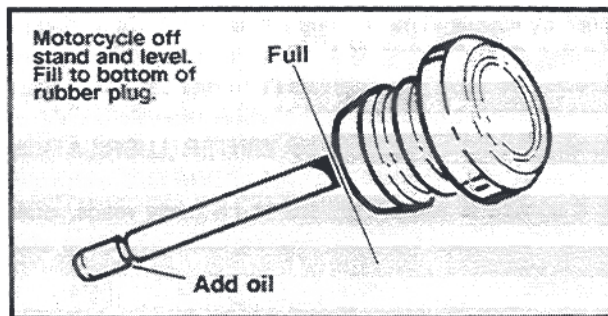
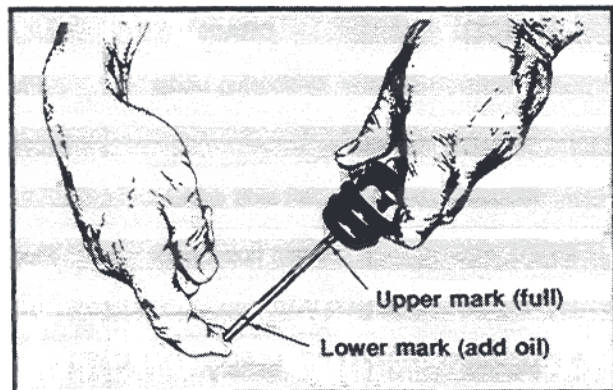

Figure 27. Engine Oil Level - Softtail Models
Figure 28. Oil Level Dipstick - All Other Models
See Figure 28. Wipe off dipstick and insert into tank with plug pushed completely into filler neck. Remove and note oil level. If oil level is down to or below lower mark on dipstick add only enough oil to bring level to upper mark on dipstick. See Figure 27. For FLST/C, FXST/C and FXSTS add only to fill mark on dipstick.
2. See Figure 28. Remove screws and washers that secure clutch inspection cover.